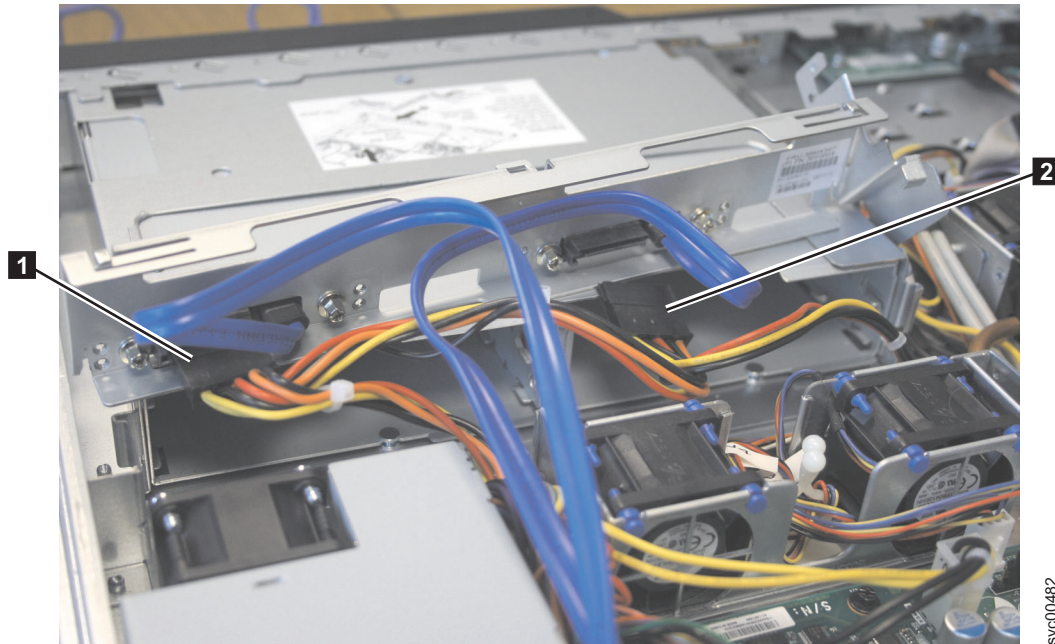

Figure 125. SAN Volume Controller 2145-8A4 power supply connectors
2. Connect power cable connectors P2 **1** and P3 **2** to the replacement backplane, as shown in Figure 125.